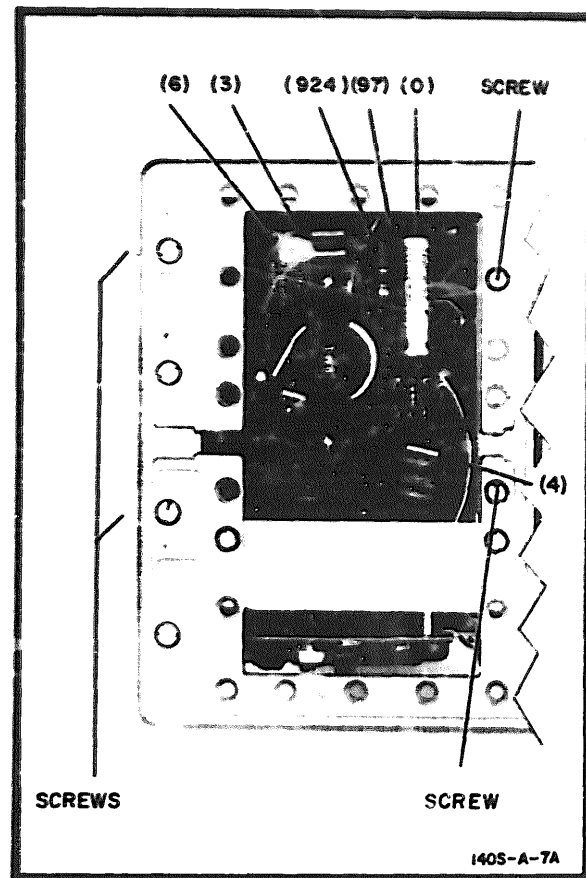

Figure 1-21. High Voltage Deck Removal
- (1) Remove the top and bottom covers of the Model 141A.
- (2) Disconnect the white-gray and white-green-gray wires from the fan terminals.
- (3) Remove all transistor heat sinks from the fan assembly and push them out of the way.
- (4) Remove the four fan mounting nuts on the rear panel of the instrument.
- (5) Lift out the fan assembly.
c. **HV Deck Removal and Replacement.** Most of the components on the high voltage deck can be replaced without removing the assembly. Other components can be removed and replaced by moving the deck part way out (without disconnecting wires). Refer to Fig. 1-21 for mounting screws and wire identification; use the following procedure for removing the high voltage deck.
- (1) Remove the left side and top covers.
- (2) Disconnect the 6 wires from the board and remove the 4 mounting screws; see Fig. 1-21 for wire and screw identification.
- (3) Disconnect the post-accelerator lead from the CRT and short the CRT pin and lead to the chassis.
- (4) Push the wires aside, tilt the deck away from the left side of the instrument and lift it out.